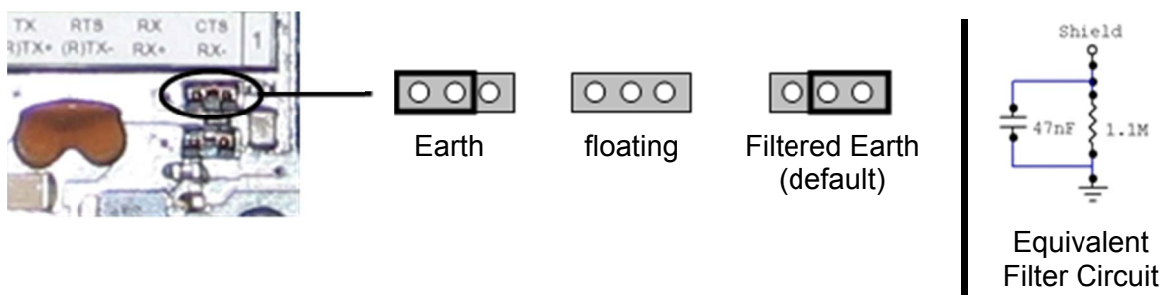

Figure 7— Shield to Protection Earth Jumper Settings
- Connect the Network Cable Shield (Shield) to Filtered Earth through the jumper (default setting, see Figure 7).